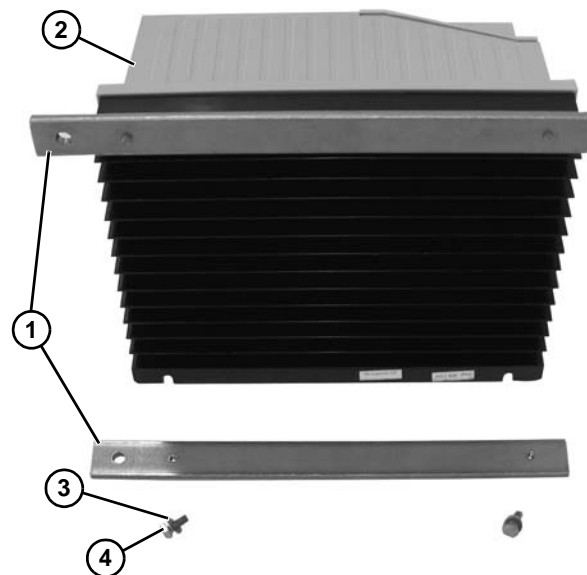

Figure 3
1. Attach mounting bars (Figure 3, item 1) to controller (Figure 3, item 2) with washers (Figure 3, item 3) and screws (Figure 3, item 4).